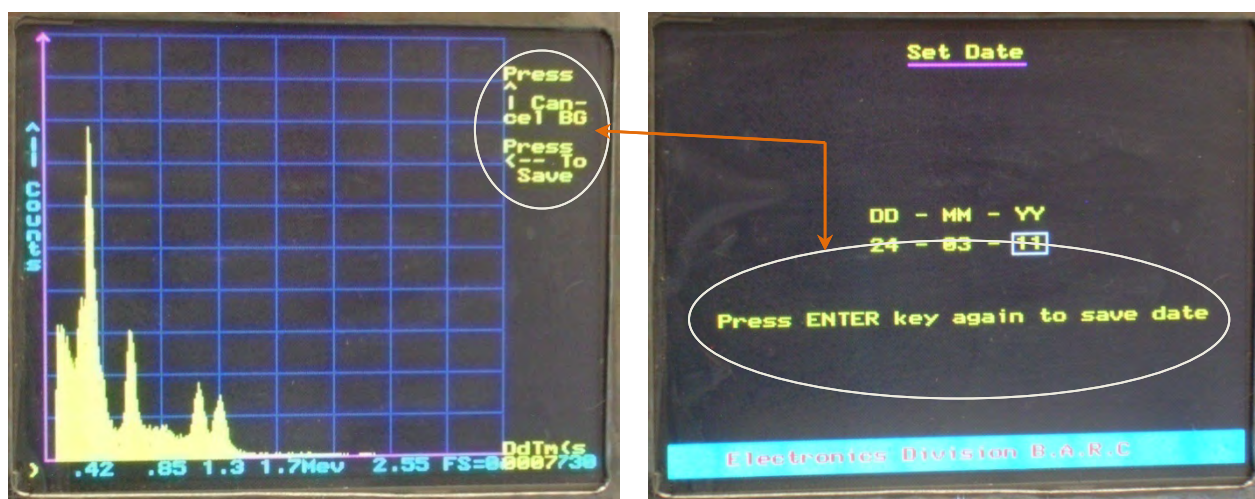

Figure 5 Key Options available
- The available options for keys are displayed either on the left block or in middle of the display as highlighted in the Figure 5.